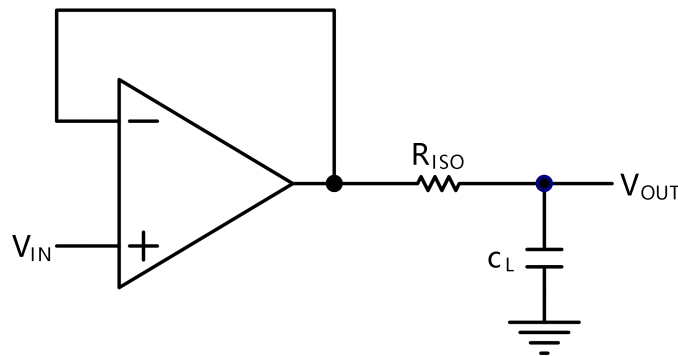
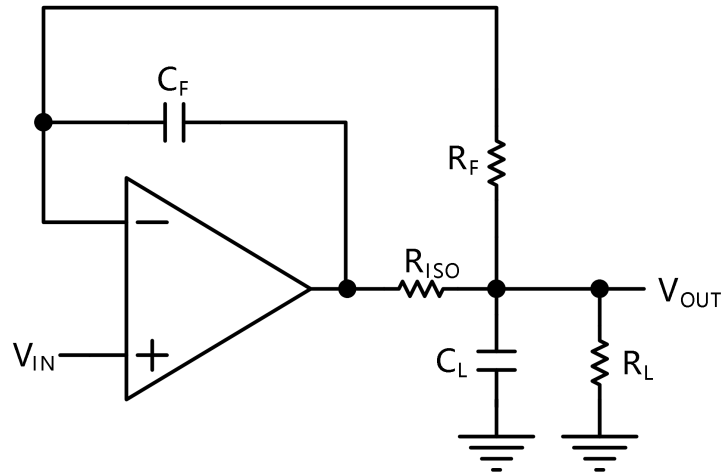

Figure 2. Indirectly Driving a Capacitive Load Using Isolation Resistor
Figure 3. Indirectly Driving a Capacitive Load with DC Accuracy
The CD805X family is optimized for bandwidth and speed, not for driving capacitive loads. Output capacitance will create a pole in the amplifier's feedback path, leading to excessive peaking and potential oscillation. If dealing with load capacitance is a requirement of the application, the two strategies to consider are (1) using a small resistor in series with the amplifier's output and the load capacitance and (2) reducing the bandwidth of the amplifier's feedback loop by increasing the overall noise gain. Figure 2. shows a unity gain follower using the series resistor strategy. The resistor isolates the output from the capacitance and, more importantly, creates a zero in the feedback path that compensates for the pole created by the output capacitance.
The circuit in Figure 3 is an improvement to the one in Figure 2. R_F provides the DC accuracy by feed-forward the V_{IN} to R_L . C_F and R_{ISO} serve to counteract the loss of phase margin by feeding the high frequency component of the output signal back to the amplifier's inverting input, thereby preserving the phase margin in the overall feedback loop. Capacitive drive can be increased by increasing the value of C_F . This in turn will slow down the pulse response.